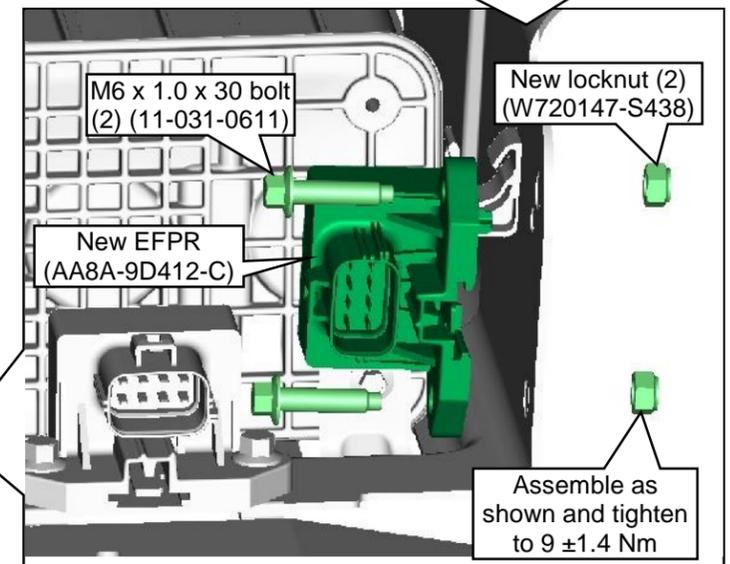

Figure 19.4 — OEM Aft-axle Tank Version
10. Install the new EFPR to inside of the vapor canister bracket and align with the locator tab and the two bolt holes. Install the two M8 bolts and nuts. Tighten to specification. The new EFPR and fasteners are supplied in hardware kit P12EB-ELECKIT-A. **Figure 19.4.**